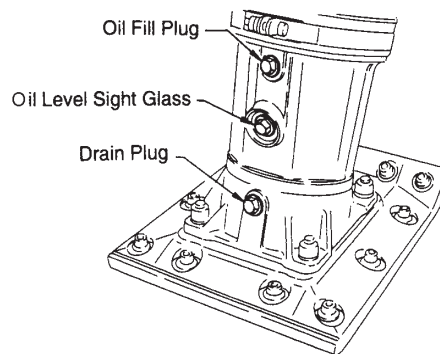

Figure 15. Foot Housing Drain Plug
- Drain oil reservoir on foot housing (Figure 15). Refill with approximately 1.7 pt. (800 cc) of 10W-30 motor oil. Oil should be midway in sight glass. Break in oil should be changed after first 50 hours.